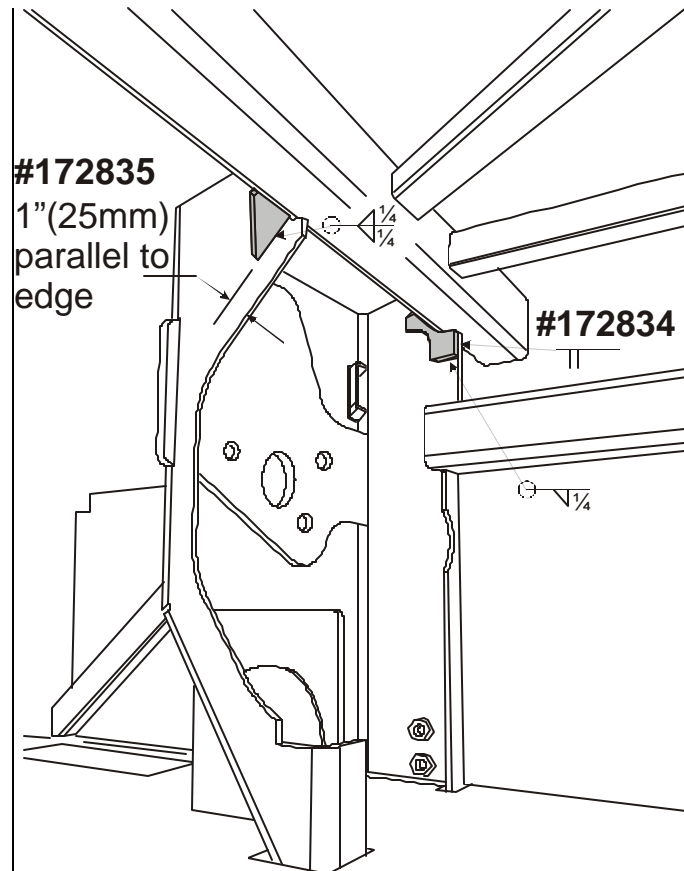

FIGURE 3: WELDING OF #172834 & #172834
7. Place reinforcement part #172835 as shown in figure 3. Assure that the 2 edges of the reinforcement part and the square tube are perfectly in contact. If needed, buff the corner of the reinforcement part to mate with an existing weld bead between the gearbox support and the square tube. Weld the reinforcement part, front side and back side with a weld bead section equal to or greater than the part thickness. To perform welding, refer to WELDING PROCEDURE and welding specifications indicated in paragraph: **Steel – Steel Welding**.